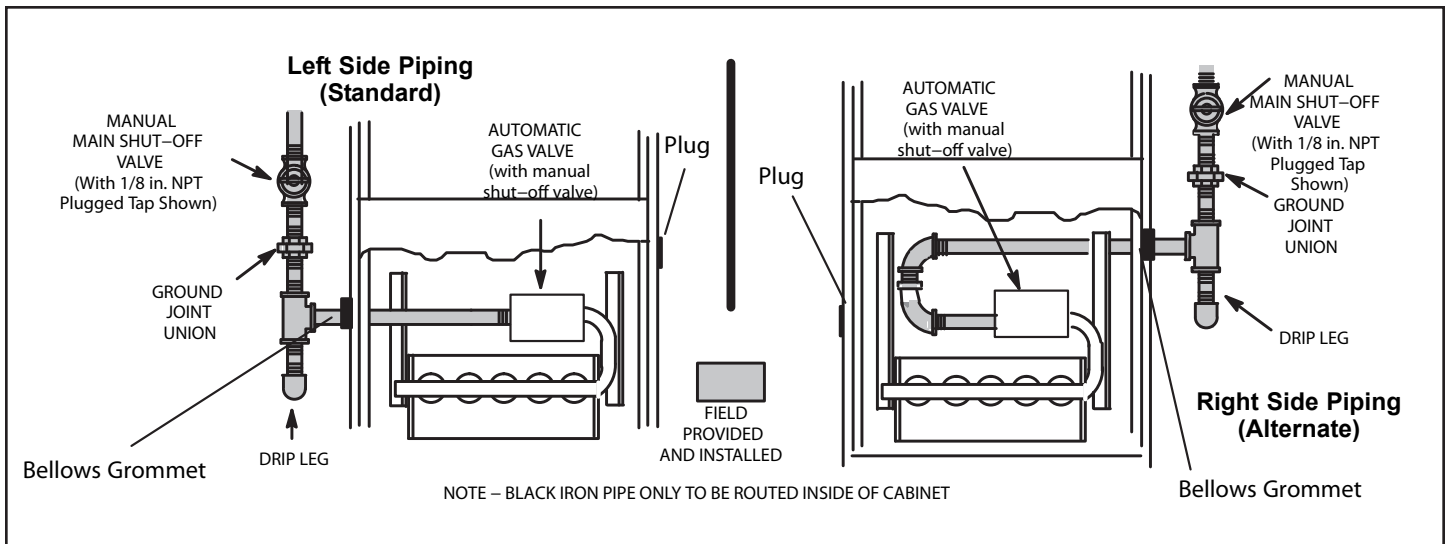

Figure 50.
1. Gas piping may be routed into the unit through either the left or right hand side. Supply piping enters into the gas valve from the side of the valve as shown in Figure 50. Move bellows grommet to side of the cabinet which the gas line enters. Ensure opposite gas line entrance is plugged with supplied plug.
3. Gas piping must not run in or through air ducts, clothes chutes, chimneys or gas vents, dumb waiters or elevator shafts. Center gas line through piping hole. Gas line should not touch side of unit. See Figure 50.